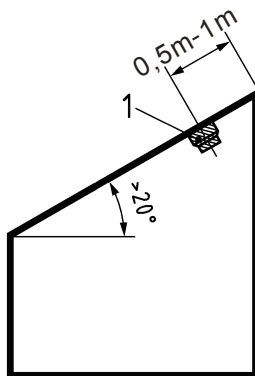
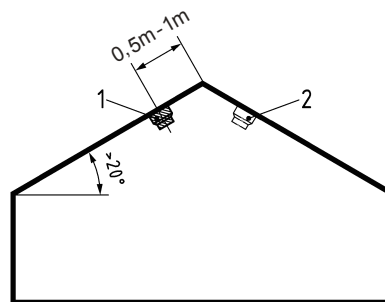
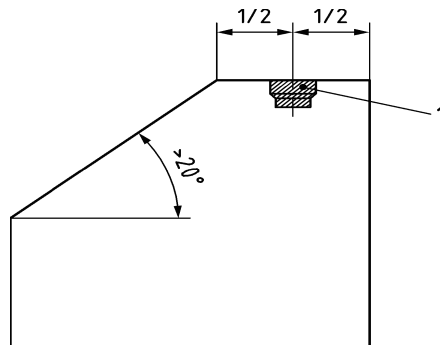
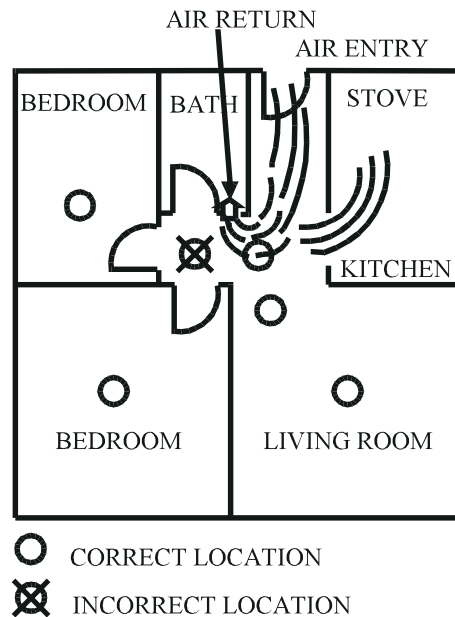

Figure 2 Mounting for ceiling with slope  $> 20^\circ$
Figure 3 Mounting for gabled ceiling with slope  $> 20^\circ$
Figure 4 Mounting in rooms with sloping ceiling and horizontal ceiling
Figure 5 Mounting in rooms with sloping ceiling and horizontal ceiling
- In dead air spaces, which are often at the top of a peaked roof or in apex of ceilings and walls. Dead air may prevent smoke from reaching a smoke alarm. See Fig. 2, Fig. 3, Fig. 4 and Fig. 5 for recommended mounting location.